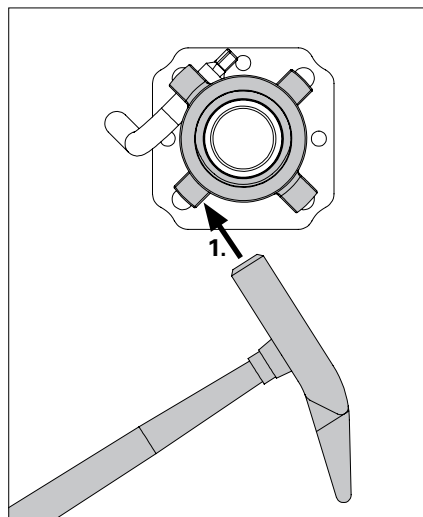

Fig. A2.02
- Hammer impact cam (Fig. A2.02/A2.02a)